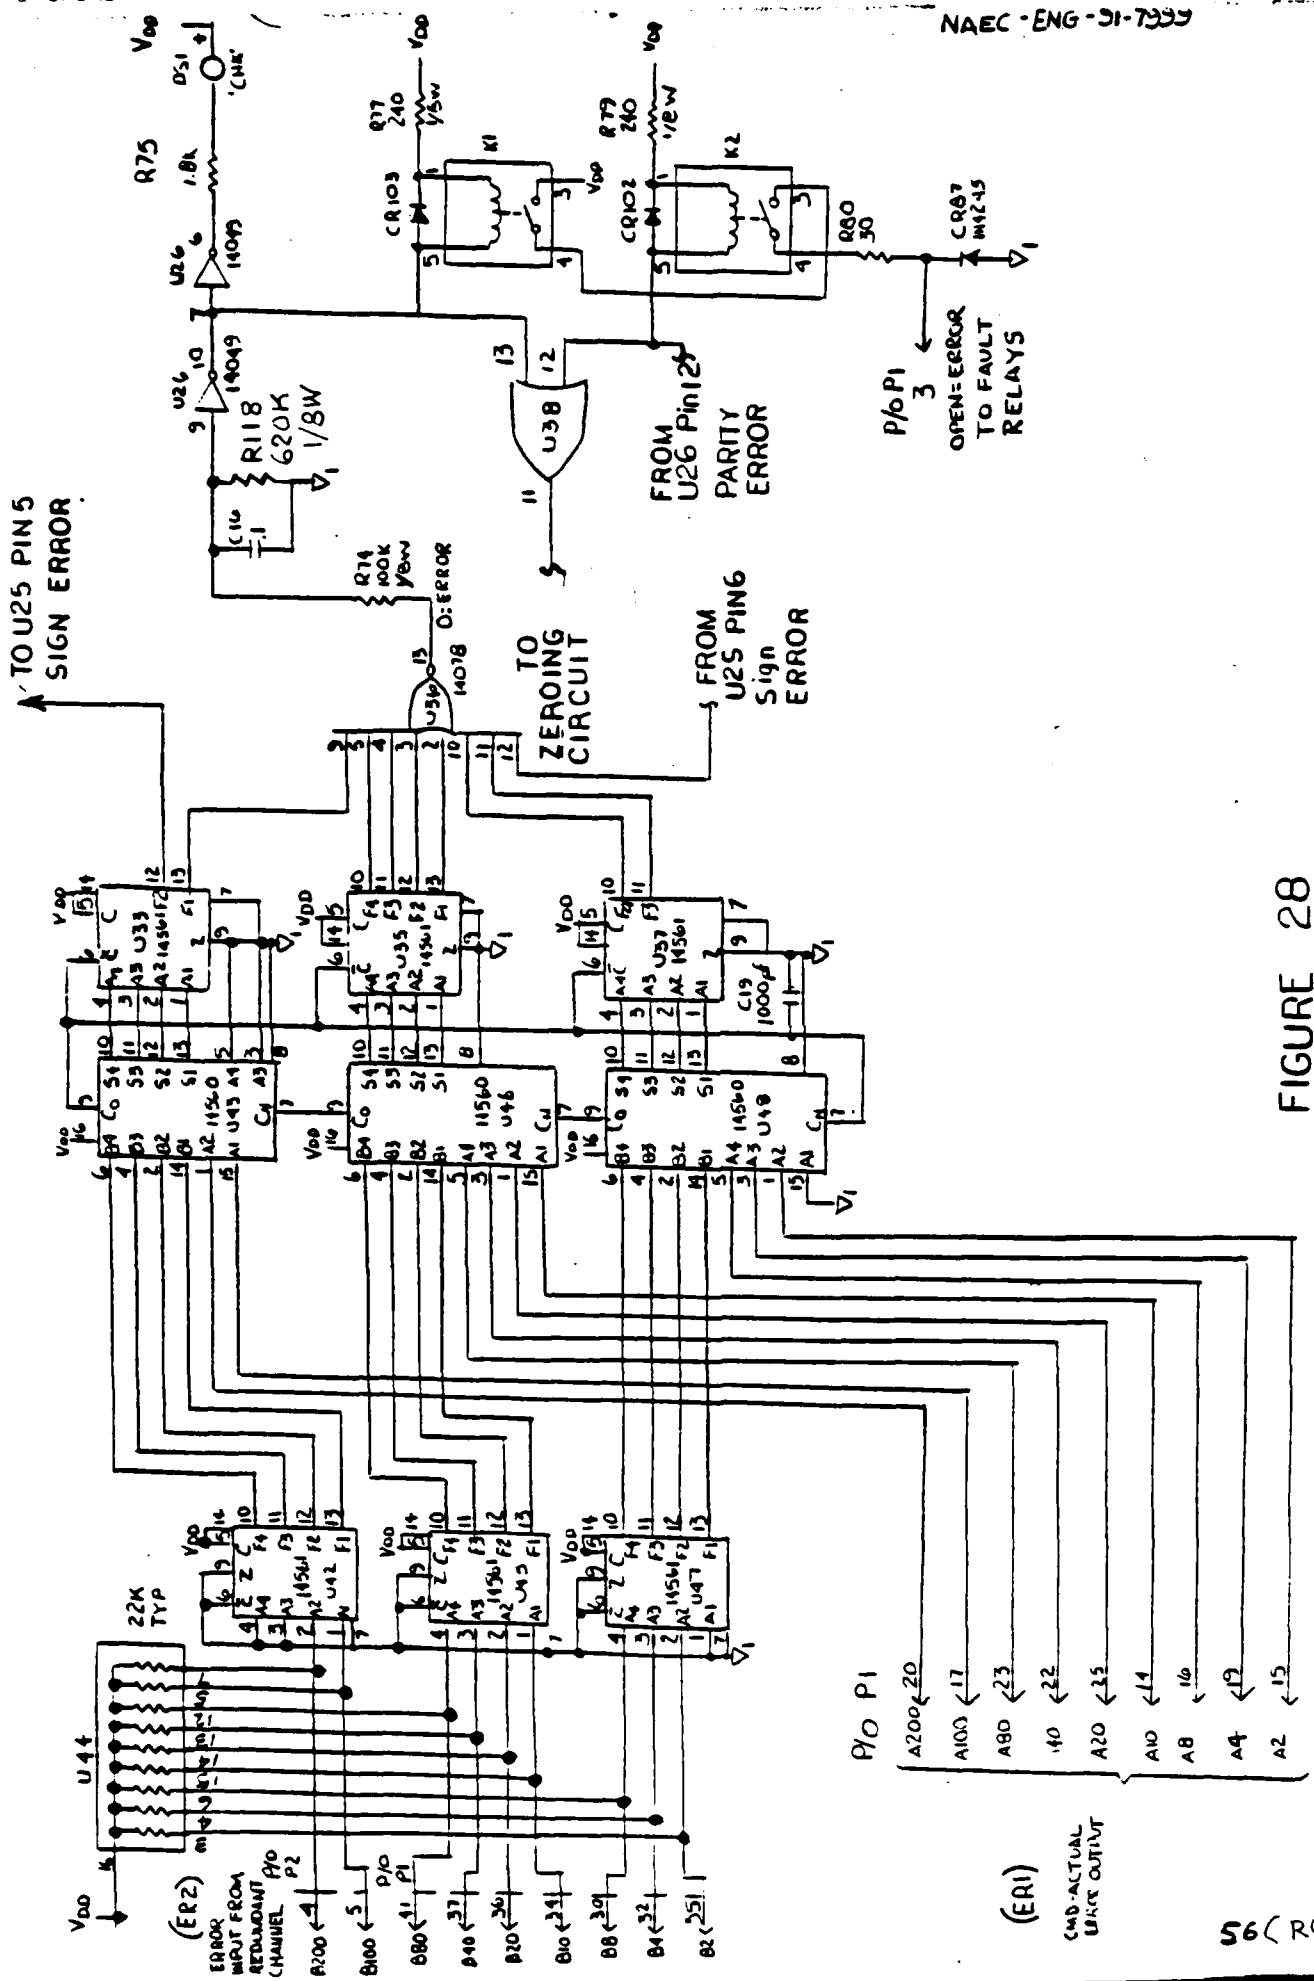

FIGURE 28
b. The crosscheck subtractor circuit is shown in Figure 28. The crosscheck subtractor works similarly to the BCD CMD-POS subtractor. The crosscheck subtractor takes the output of the BCD CMD-POS subtractor and subtracts it from the error input of the redundant channel.